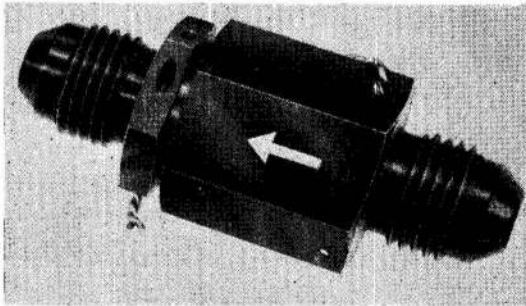

Fig. 12. Check valve (Part No. OP.18631)
22. This check valve (fig. 12 and 13) is incorporated in certain package units to release excess supply pressure to the build-up side of the converter system. The valve consists of a housing, an insert, spring, and a valve assembly identical to that fitted to the valve (Part No. OP.18630) described in para. 20. The insert accommodates